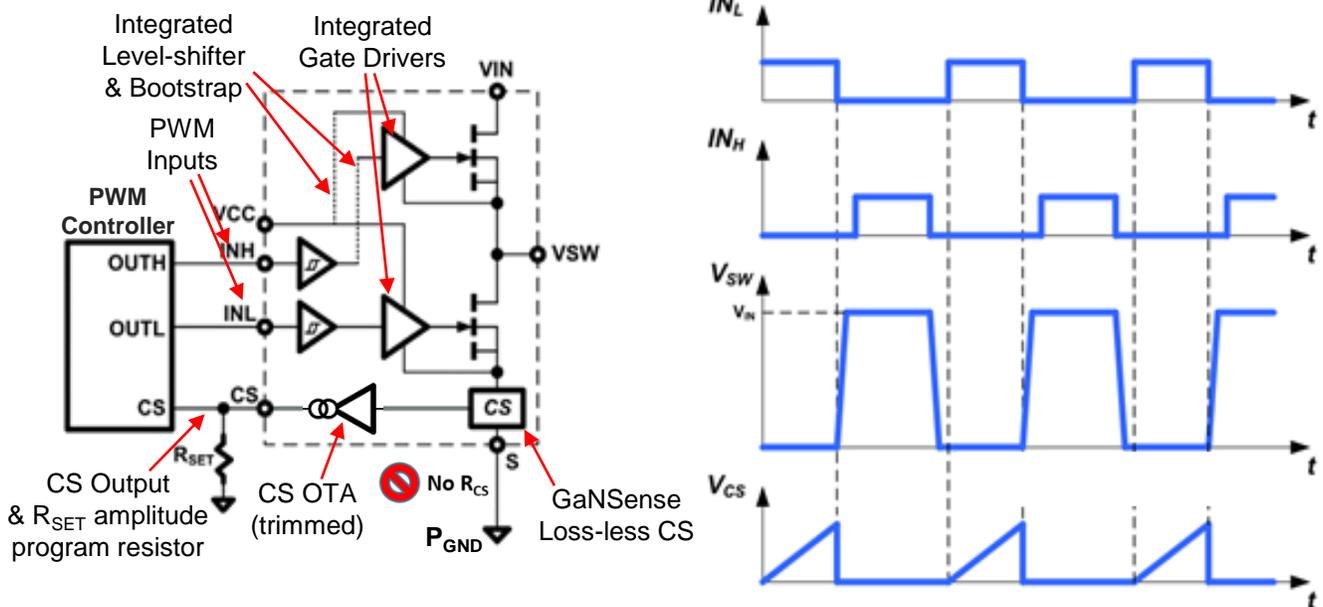

Fig 6. IC simplified internal block diagram & timing diagram
For many applications it is necessary to sense the cycle-by-cycle current flowing through the low-side GaN power FET. Existing current-sensing solutions include placing an external current-sensing resistor in between the source connection of the low-side power FET and P_{GND} . Using external current-sensing resistors increases system conduction power losses, creates a hot-spot on the PCB, and lowers overall system efficiency. To eliminate external resistors and hot-spot, and increase system efficiency, the IC integrates accurate and programmable loss-less current-sensing. The I_{DS} current flowing through the low-side GaN power FET is sensed internally (Fig. 6) and then amplified, trimmed and converted to a current at the current-sensing output pin (CS). An external resistor (R_{SET}) is connected from the CS pin to the P_{GND} pin and is used to set the amplitude of the CS pin voltage signal. This allows for the CS pin signal to be programmed to work with different controllers with different current-sensing input thresholds.